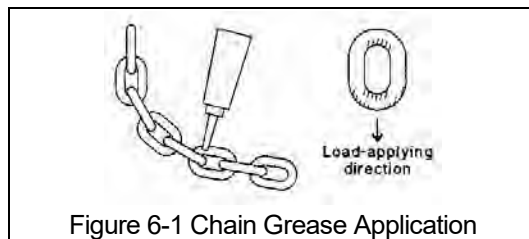

Figure 6-1 Chain Grease Application
- Apply Harrington lubricating grease (Part No. ER2CS1951) or an equivalent to industrial general lithium grease, NLGI No. 0, to the bearing surfaces of the load chain links as indicated by the shaded areas in Figure 6-1. Also apply the grease to the areas of the load chain (shaded areas in Figure 6-1) that contact the load sheave. Insure that the grease is applied to the contact areas in the load sheave pockets.
Refer to Figure 6-1, proceed as follows:
- 1) Set the Selector Lever on the (37) lever assembly to the 'N' position.
- 2) With the Selector Lever pulled in the 'a' direction, as shown in the left picture, insert the hex part of the Selector Lever into (34) Select pawl.
- 3) Apply (G1) grease lightly to the pawl of (34) Select Pawl and to the top of (35) Spring Shaft as shown in Figure 6-1.
- 4) Insert (35) Spring Shaft into (36) Select-Pawl spring and attach them into the Spring Holder.